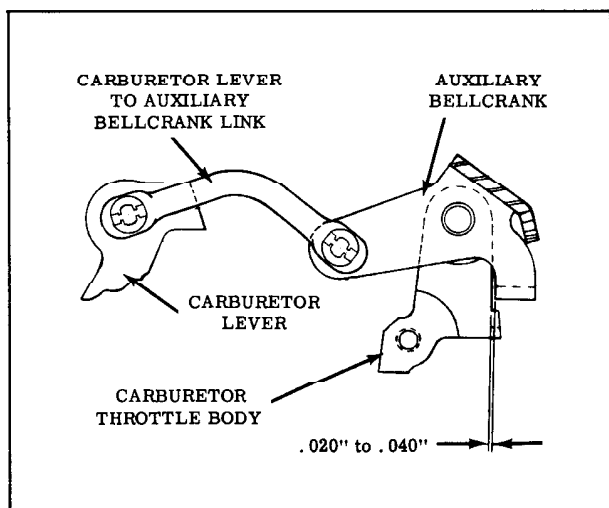

Fig. 11-3 Carburetor Lever to Auxiliary Bellcrank Adjustment (4 Barrel)
THROTTLE CONTROL ADJUSTMENT (Fig. 11-3)
- a. 4GC - With the use of a feeler or wire gauge, measure distance between machined surface of carburetor throttle body and the auxiliary bellcrank gauging tang. Clearance should be .020" to .040". If adjustment is necessary, remove auxiliary bellcrank link and bend as required. Install link and recheck clearance. (Fig. 11-3)